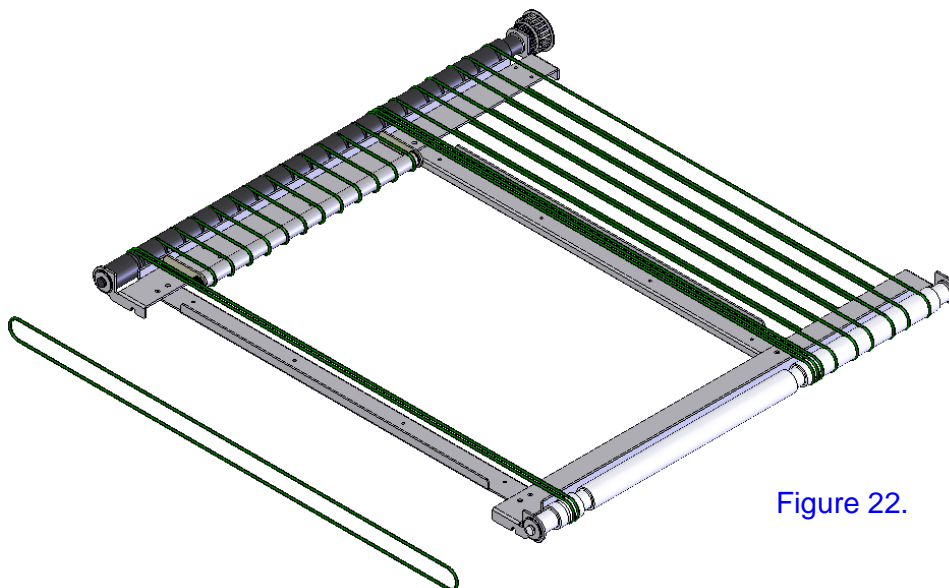

Figure 22.
26. Replace the Film Feeder belts as needed. See Figure 22.